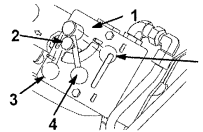

Figure 11
The traction unit hydraulics (i.e., the traction drive, loader arms, and attachment tilt) work on a separate hydraulic circuit from the auxiliary hydraulics for powering attachments; however, the two systems share the same hydraulic pumps. Using the flow divider control (Fig. 11), you can vary the speed of the traction unit hydraulics by diverting hydraulic flow to the auxiliary hydraulics circuit. The flow divider allows you to divide the flow of fluid in varying degrees to slow the traction unit. Thus, the more hydraulic flow you divert to the auxiliary hydraulics, the slower the traction unit will move.
**Note:** You can fix the flow divider control in place by turning the knob on the control clockwise until it contacts the dial (Fig. 11).